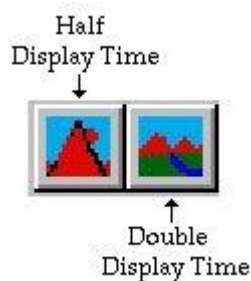

Figure 1-1: The Display Time icons on the LabScribe Main window toolbar.
- 1 **Screen time** is simply the amount of time represented by one full screen of data. When the program opens, the default screen time is set to 10 seconds. You can change the **screen time** by using the **Half** or **Double Display Time** controls in the toolbar (Figure 1-1 on page 4).
- 1 Use the screen time controls (**Half** or **Double Display Time**) to provide a better view of recorded events. Click on the **Double Display Time** button (little mountain in toolbar, Figure 1-1 on page 4) until all of the data is visible in a single screen.
- 2 Use the **Dual Cursor** button (button with two vertical lines in Figure 1-1 on page 4) in the toolbar. Two cursor lines appear on the **Main** window. Use the cursors to bracket areas of interest within the visible data. The selected area can then be expanded to full screen in the **Analysis** window.
- 3 **Marks** can be entered after data recording is complete using the **Single Cursor** button (the button with a single vertical line in Figure 1-1 on page 4).